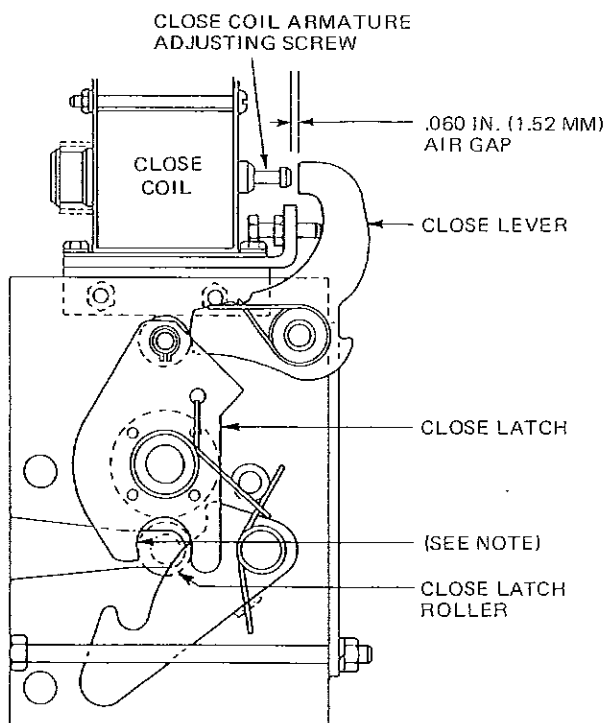

Figure 9
2. Manually move the close latch to the set position by inserting a screwdriver through the opening in the operating mechanism frame and pulling the close latch to the set position (Figure 9).
3. With the close latch in the set position (Figure 9), the close coil armature air gap should measure .060 inches (1.52 mm).
2. Manually set the close latch roller to the set position as shown in Figure 9.